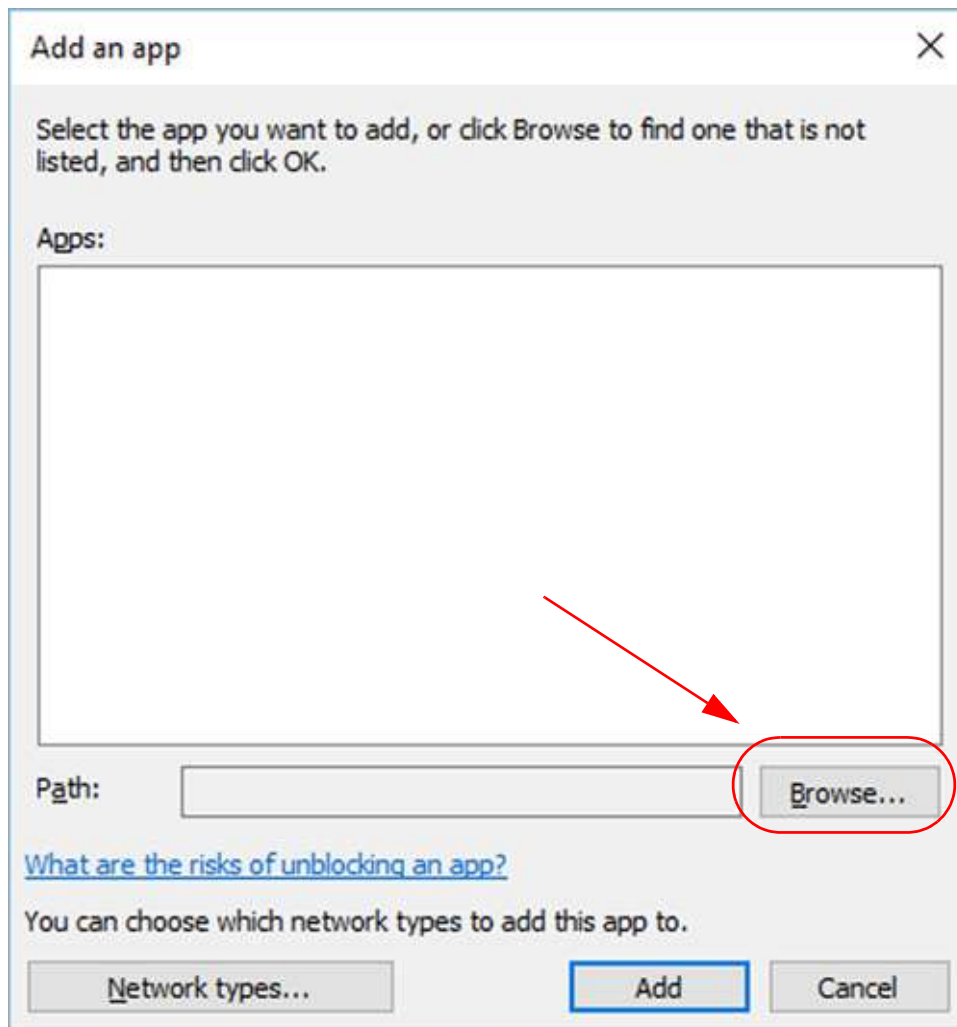

Figure 3.16: Windows 10: Add an App -> Browse
6. From the “Add an app” screen, select the Browse button. See Figure 3.16.